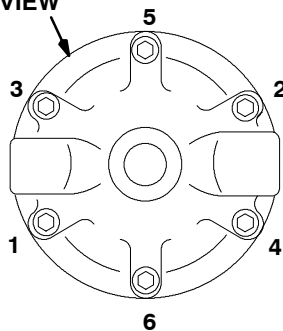

Fig. 5
5. Remove the swivel union (23) and spring (40) from the regulator body.
6. Remove the ball (20), valve seat (16), and gasket (15). See Fig. 5.
14. Torque the jam nut (13) onto the stem housing (18) to 21–35 ft-lb (28–47 N•m).
15. Install the valve stem (9), spring (3), gasket (21) and retaining screw (10) in the stem housing (18). Make sure the tab on the valve stem (9) fits into the slot on screw (10).
16. Torque the retaining screw (10) into the housing to 21–25 ft-lb (28–34 N•m).
17. Install the spring, adjusting screw (12) and cap on the housing (6). Tighten six capscrews (1) in the sequence shown in Fig. 5, **Bottom View**, and to the torque noted.
18. Install the gasket (15), valve seat (16), and ball (20) into the housing (6).